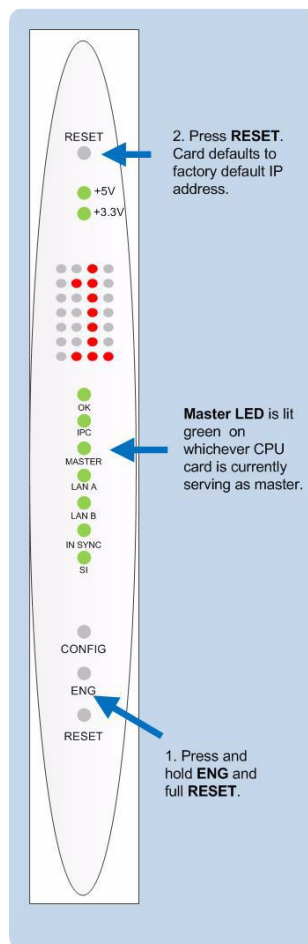

Figure 3-1 CPU Card
- 6) Press and hold the **ENG** and **FULL RESET** front panel buttons simultaneously (bottom of card) then press the **RESET** button (top of card, see Figure 3-1) on the slave CPU card.